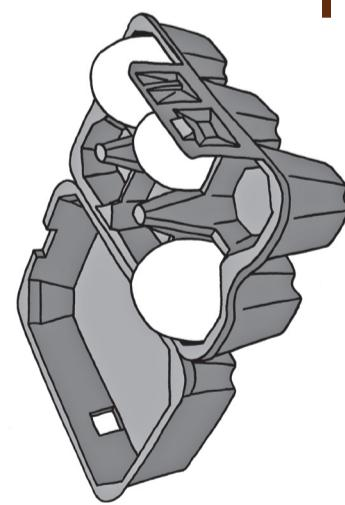

Figure 7
4. Why are eggs packed in special containers such as the one in Figure 7?